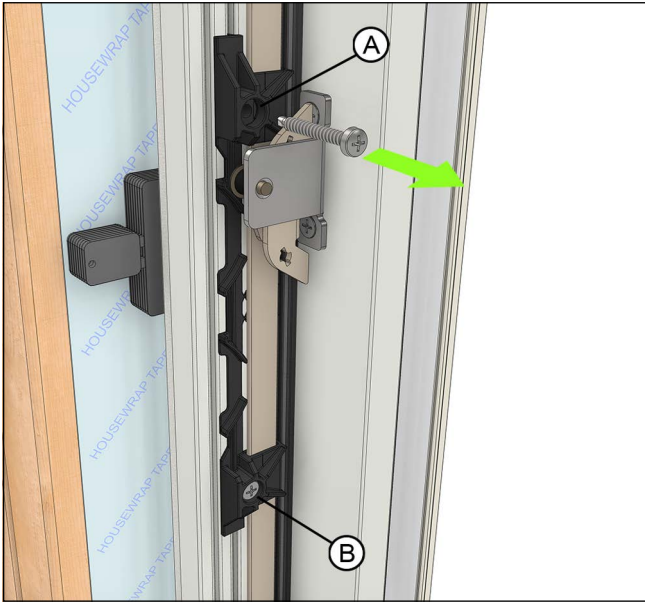

Figure 19
**8. Casement/Awning:** Remove the top tie bar housing screws (A). See Figure 19.